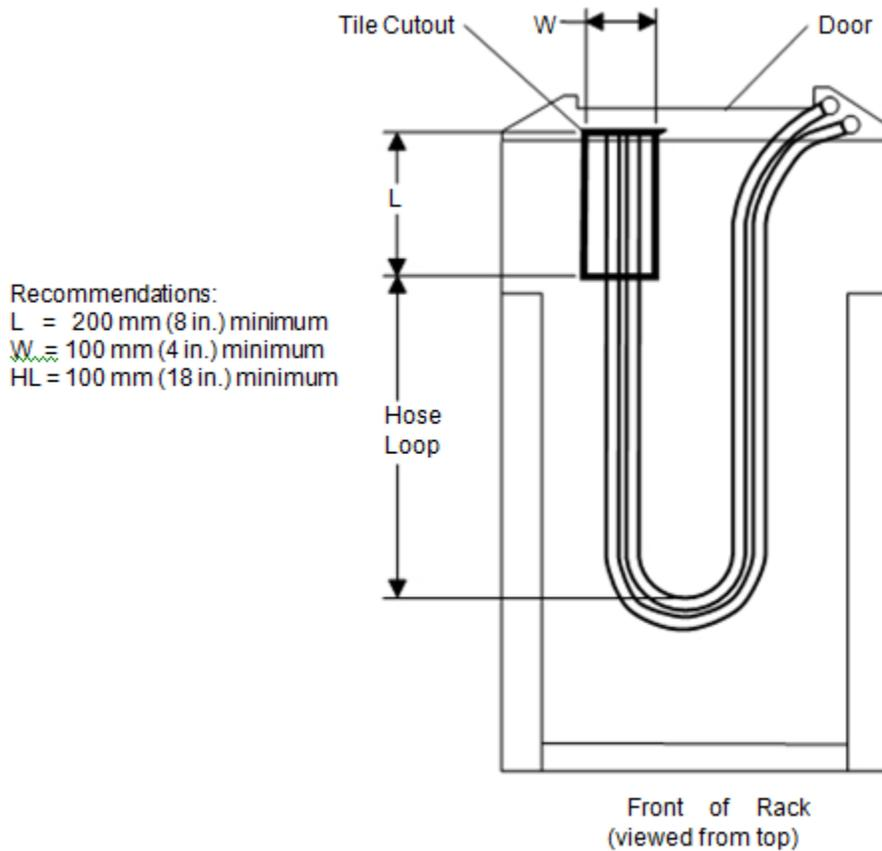

Figure 10. Raised floor and non-raised floor hose management example 2; loop under the rack with door closed
4. For bottom-fed RDHx installations using right angle hose kits, a large loop must be designed to allow hose movement when the door is opened and closed. Figure 10 shows the recommended cutout dimensions positioned fully under the enclosure. Existing floor tile cutouts for electrical or other cables can also be used for the hoses if enough space is available. Figures 10 and 11 show an example of this arrangement. Figures 10 and 11 show an example of this arrangement.